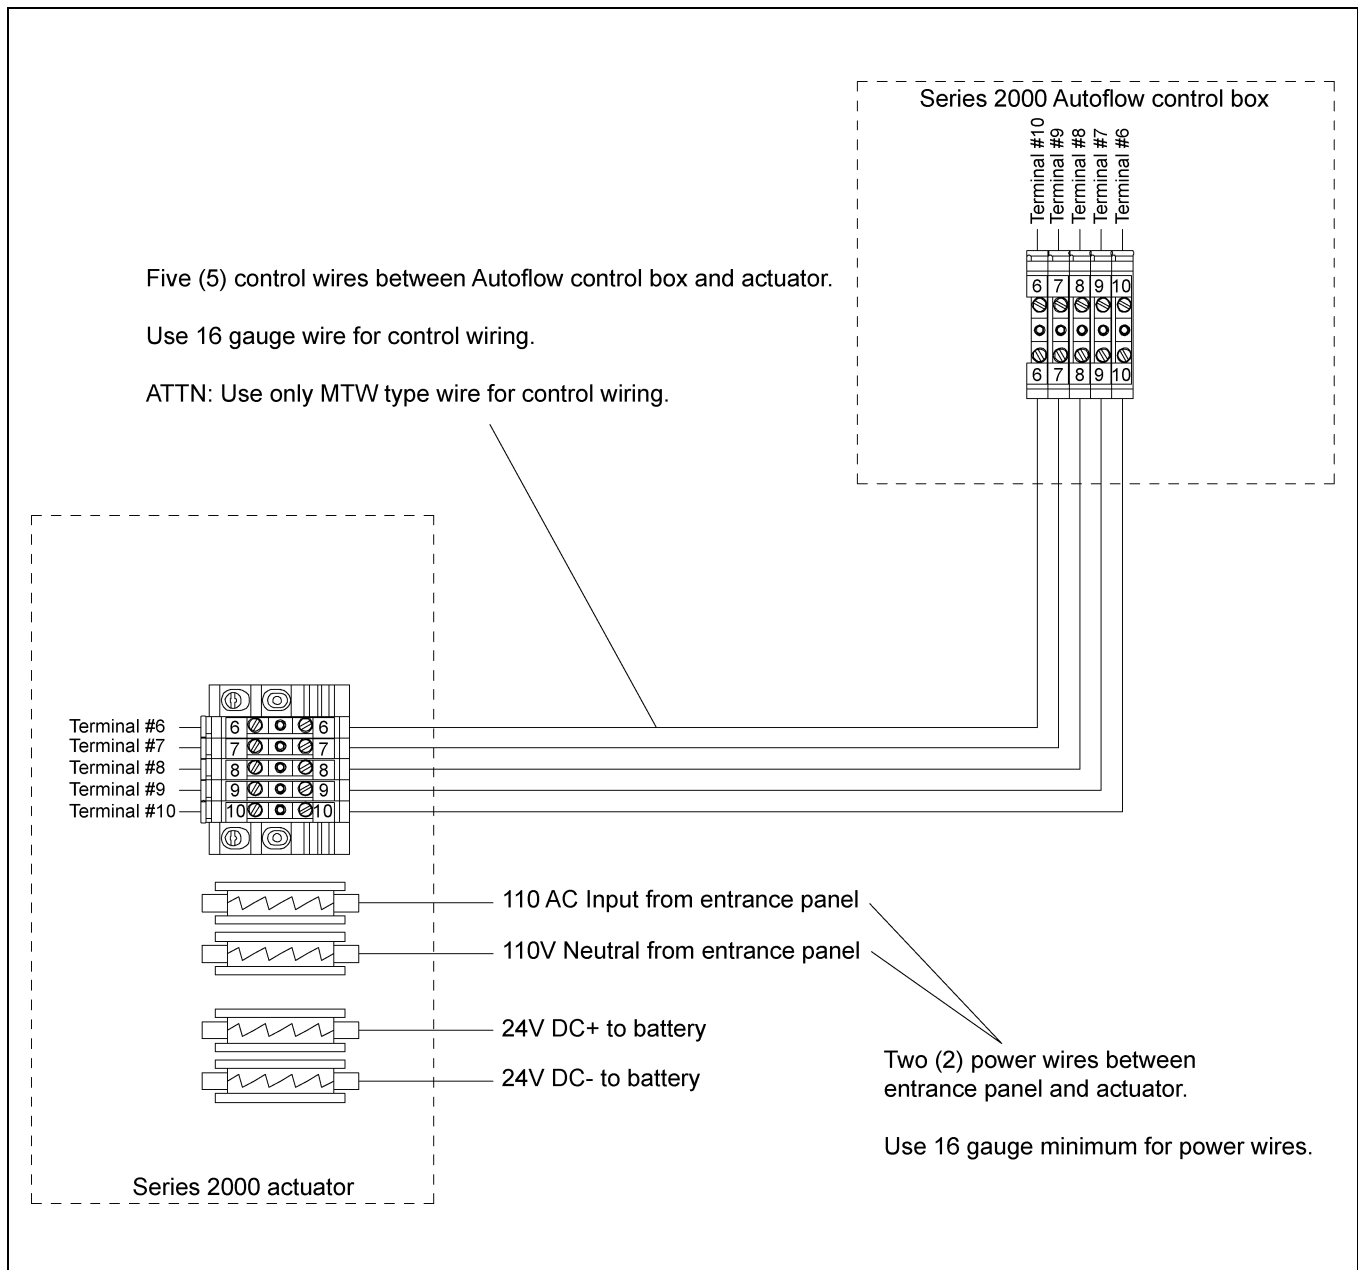

Figure 4F
1. Run five (5) control wires from the Autoflow control box to the actuator control box.
2. Run three (3) power wires from the entrance panel to the actuator control box.
3. Connect the wires as shown in Figure 4F.